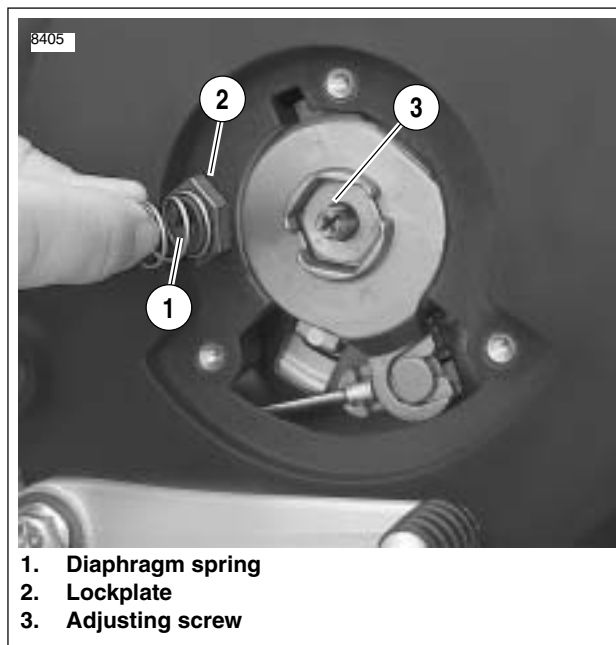

Figure 1-24. Clutch Adjustment
4. See Figure 1-24. Remove spring (1) and lockplate (2). Using a flat tip screwdriver, turn adjusting screw (3) counterclockwise until it lightly bottoms.